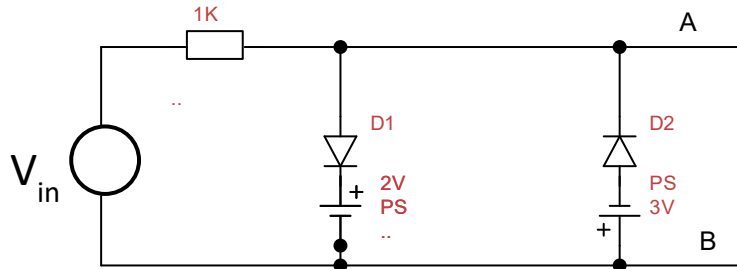

Figure 4. Voltage Limiting/Clipping Circuit
1. Construct the circuit as shown in Figure 4 using switching diodes 1N914. Measure the 1K Ω resistor. Use PS1 at 2V with – terminal grounded and + terminal hooked to D1 cathode, and PS2 at 3V with + terminal grounded and – terminal hooked to D2 anode. This power supply hookup is similar to the power supply hookup for op-amps. The power supply ground should be hooked to the circuit ground (side B) of the circuit in Fig. 4.
1. Draw circuit diagram used in Figure 4. (2 pts)